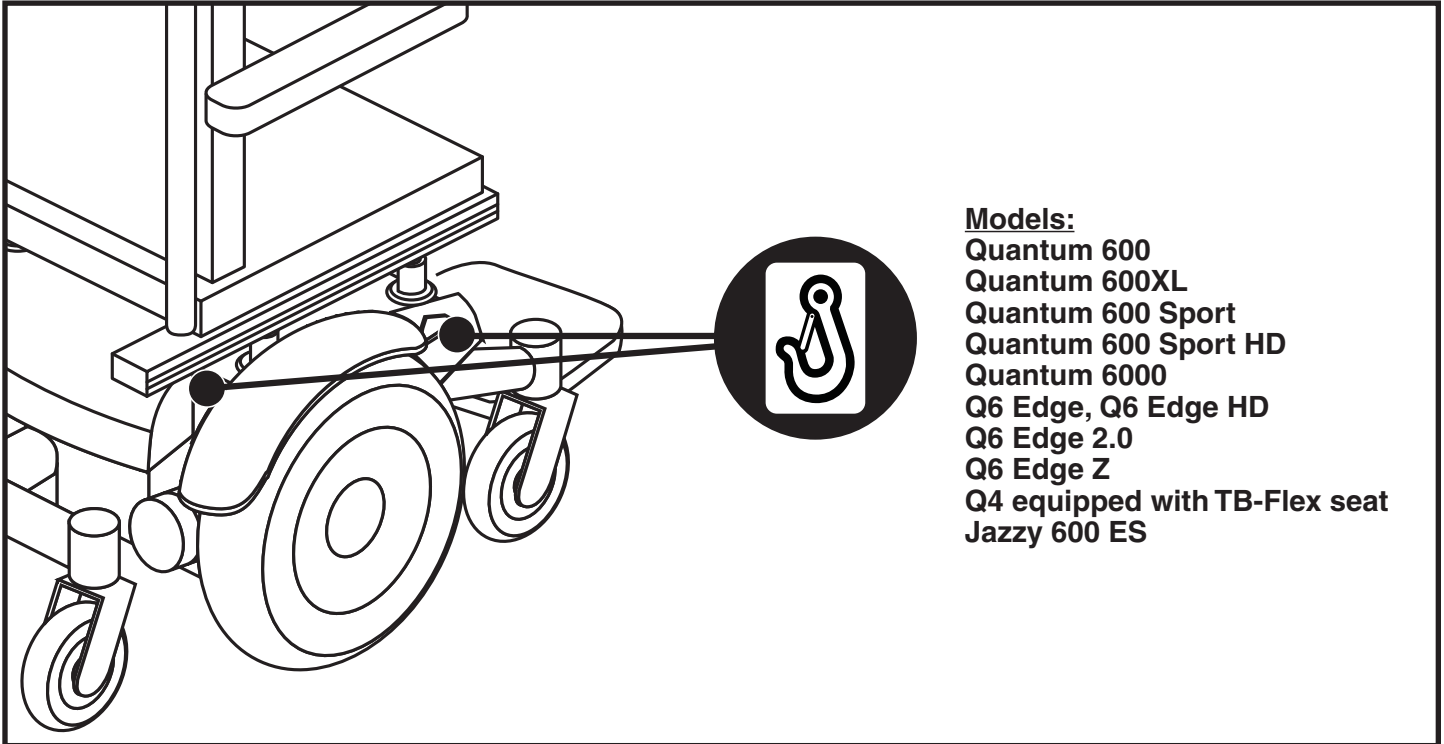

Figure 3. 4-Point Securement Points on a Mid-wheel Drive Power Chair (Right Side Shown)
- Attach the four, six, or eight tie-down straps only to designated, labeled transit securement points indicated by anchor symbols on the power chair. **See figures 3 through 12.** Tighten the straps to sufficiently remove all slack.
- The Pride Transit Securement Package includes WTORS belt restraint anchor points in conformance with ISO 7176-19. See figures 3 through 11 for the location of the anchor points on each model.